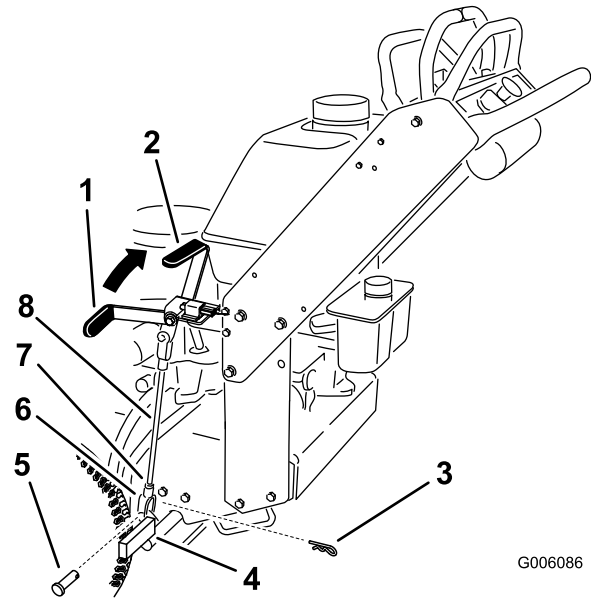

Figure 48
Note: When the brake is engaged, the brake handle should be in the 1 o'clock position (Figure 48).
5. Loosen the top and bottom jam nuts (Figure 48).
6. To adjust the brake, remove the hairpin cotter and clevis pin from the lower brake lever (Figure 48).
7. Rotate the brake rod in the yokes (Figure 48).
8. Secure the yoke to the lower brake lever with the hairpin cotter and the clevis pin (Figure 48).
9. Tighten the top and bottom jam nuts (Figure 48).